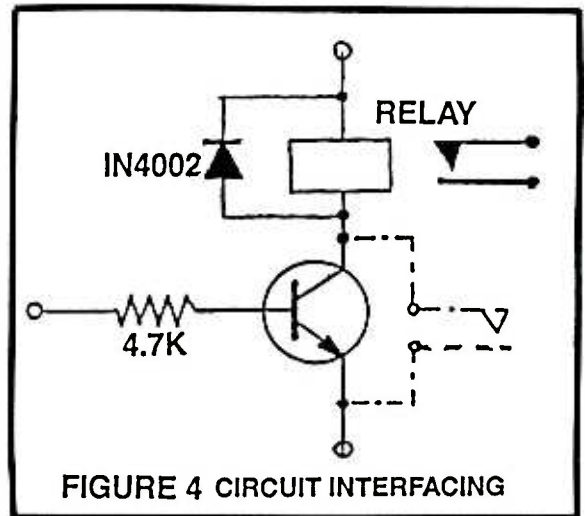

FIGURE 4 CIRCUIT INTERFACING
**Circuit interface:** It is recommended that motors, solenoids and other heavy inductive loads be isolated from the electronic circuitry, and have their own power supply. Fig. 4 shows how and more will be said about this later.
#### Circuit Interfacing — Fig. 4